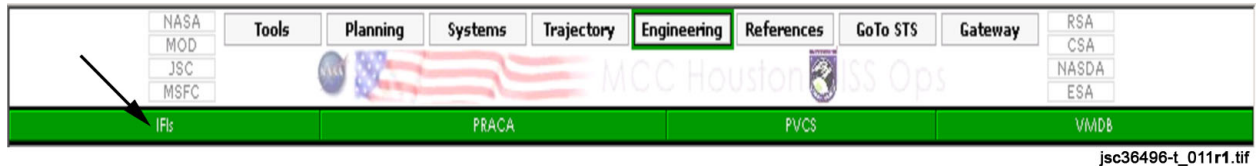

Figure 4-64. Accessing IFI
1. To access the IFI tool, go to the MCC-H page, navigate to the **Engineering** tab, then click on the **IFI** tab (see Figure 4-64).